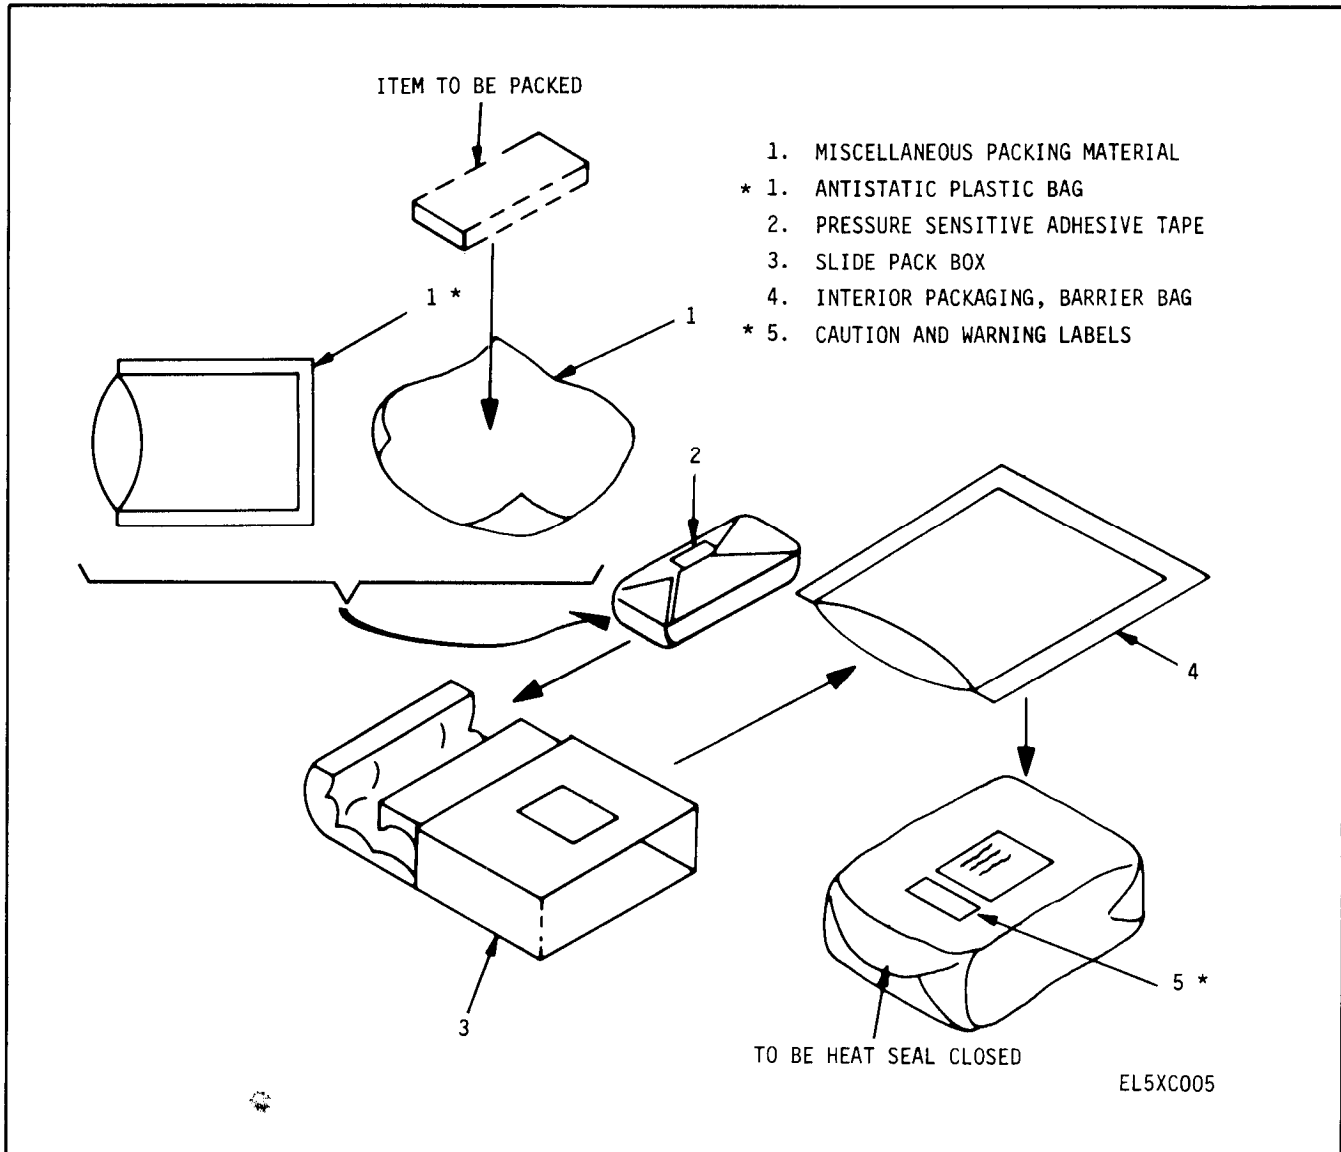

Figure 2-2. General Use Packaging Diagram
(1) For indicator boards A2, A3, and A4, refer to figure 2-2.